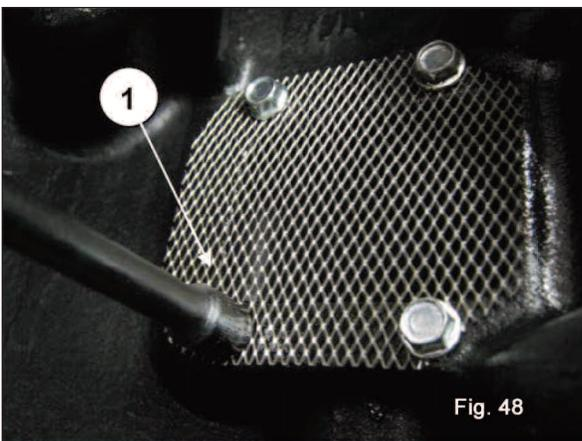

Fig. 48
Remove the (4) filter mesh fixing screws to access the lube pump suction cavity and check that the interior is clean (1, fig. 48).